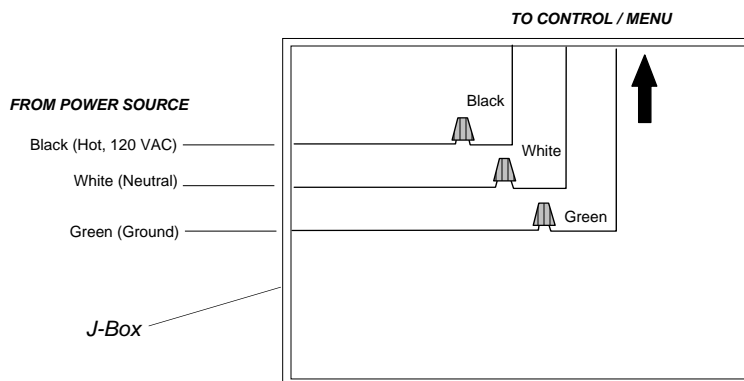

Figure 7: J-Box Electrical Connections
- a. Remove cover from Junction (J) Box.
- b. At J-Box, connect AC input wiring as illustrated in **Figure 7**.